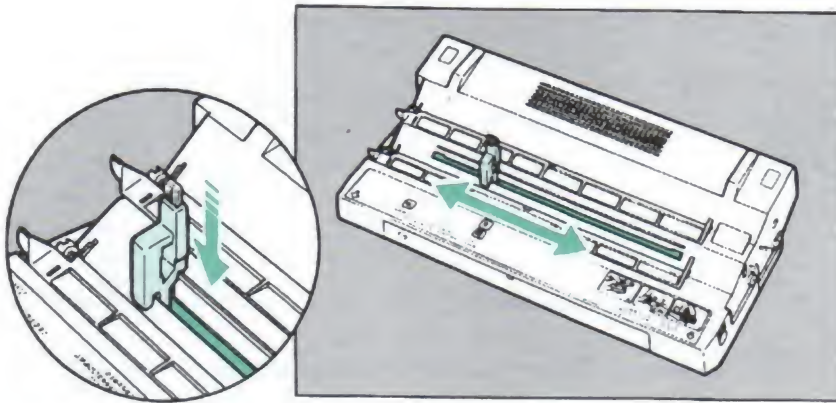

Figure 6-11. Cleaning the Primary Corona Wire on the EP-S Cartridge
5. Carefully insert the felt tipped end of the brush in one end of the EP-S cartridge slot, as shown in Figure 6-11. (The brush will fit only one way. Look carefully at Figure 6-11 for the correct way to position the cleaning brush.)